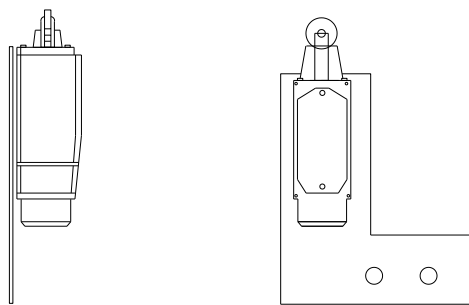

Figure 16 Installation of Limited Switch
5.4.4 Installation of limit switch: Anchor the limit switch as following picture (See Figure 16)